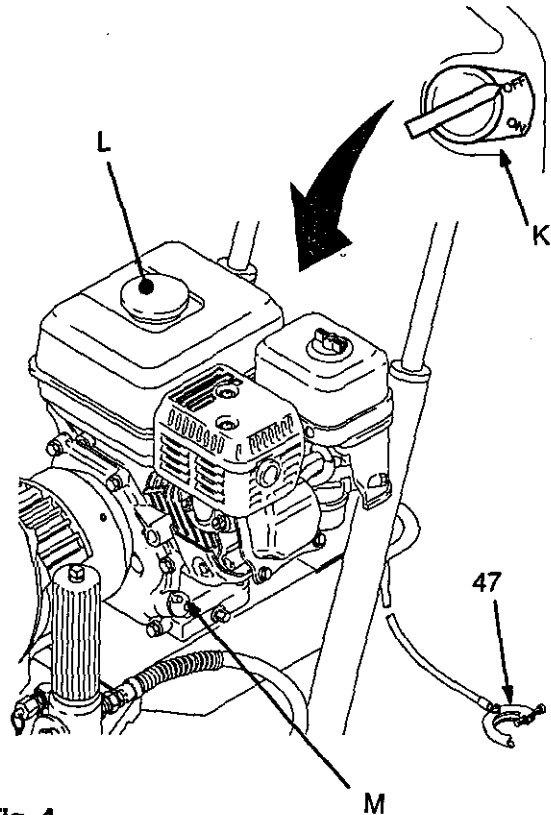

Fig. 4
4. **Check the engine oil level.** Refer to the Honda engine manual, supplied. This is a summary of the information: Remove one of the oil fill plugs (M); the oil should be almost overflowing. See Fig. 4. Add oil as necessary.